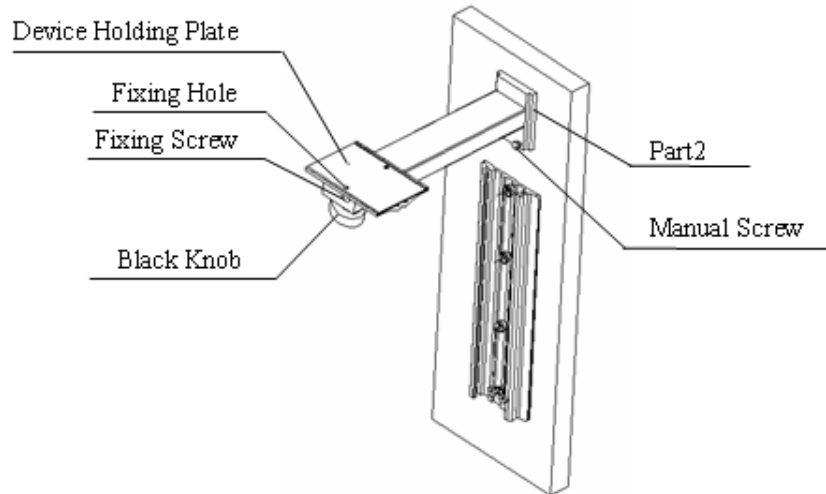

Figure 2-2
4. Slide the arm (part2) into channel (part1) as Figure2-2 shown to the desired location.